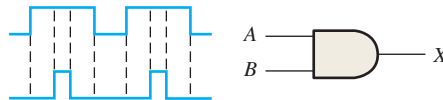

FIGURE 3-78
5. Determine the output, *X*, for a 2-input AND gate with the input waveforms shown in Figure 3-78. Show the proper relationship of output to inputs with a timing diagram.